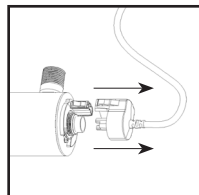
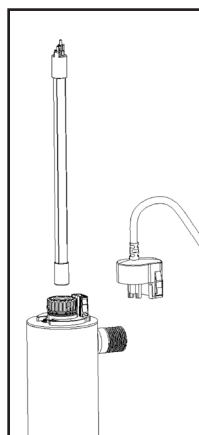
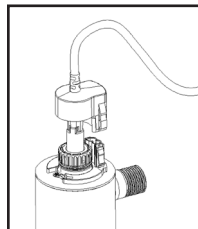

FIGURE 2B
FIGURE 2C
FIGURE 2D
- ⚠** 2. Disconnect main power source and allow the unit to power down for 30 sec. Remove the lamp connector by squeezing the plastic locking tabs on the side of the connector. Remove connector and lamp from the reactor chamber. and lamp connector base. Separate the lamp from the connector (Figure 2B). Do not twist the lamp from the connector, simply slide the two apart. Avoid touching the lamp on the glass portion. Handling the lamp at the ceramic ends is acceptable, however if you must touch the lamp glass, please use gloves or a soft cloth. Fully remove the lamp from the reactor chamber being careful not to angle the lamp as it is removed from the chamber. If the lamp is removed on an angle, pressure will be applied on the inside of the quartz sleeve, causing the sleeve to fracture.
- ⚠** 3. To install a new lamp, first remove the lamp from its protective packaging, again being careful not to touch the lamp glass itself. Carefully insert the lamp into the reactor vessel (actually inside the quartz sleeve) (Figure 2C). Insert the lamp fully into the chamber leaving about two inches of the lamp protruding from the chamber. Next, attach the connector to the UV lamp (Figure 2B). The connector is “keyed” and will only allow correct installation in one position. Ensure the connector is fully seated onto the UV lamp (Figure 2D).